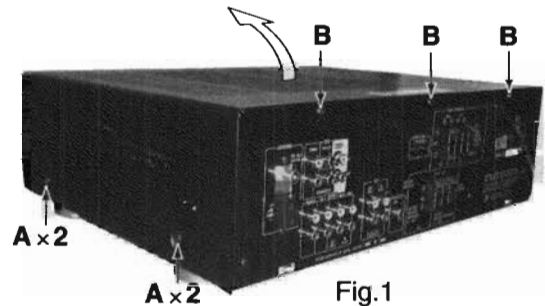

Fig.1
■ Top cover removal (See Fig.1)